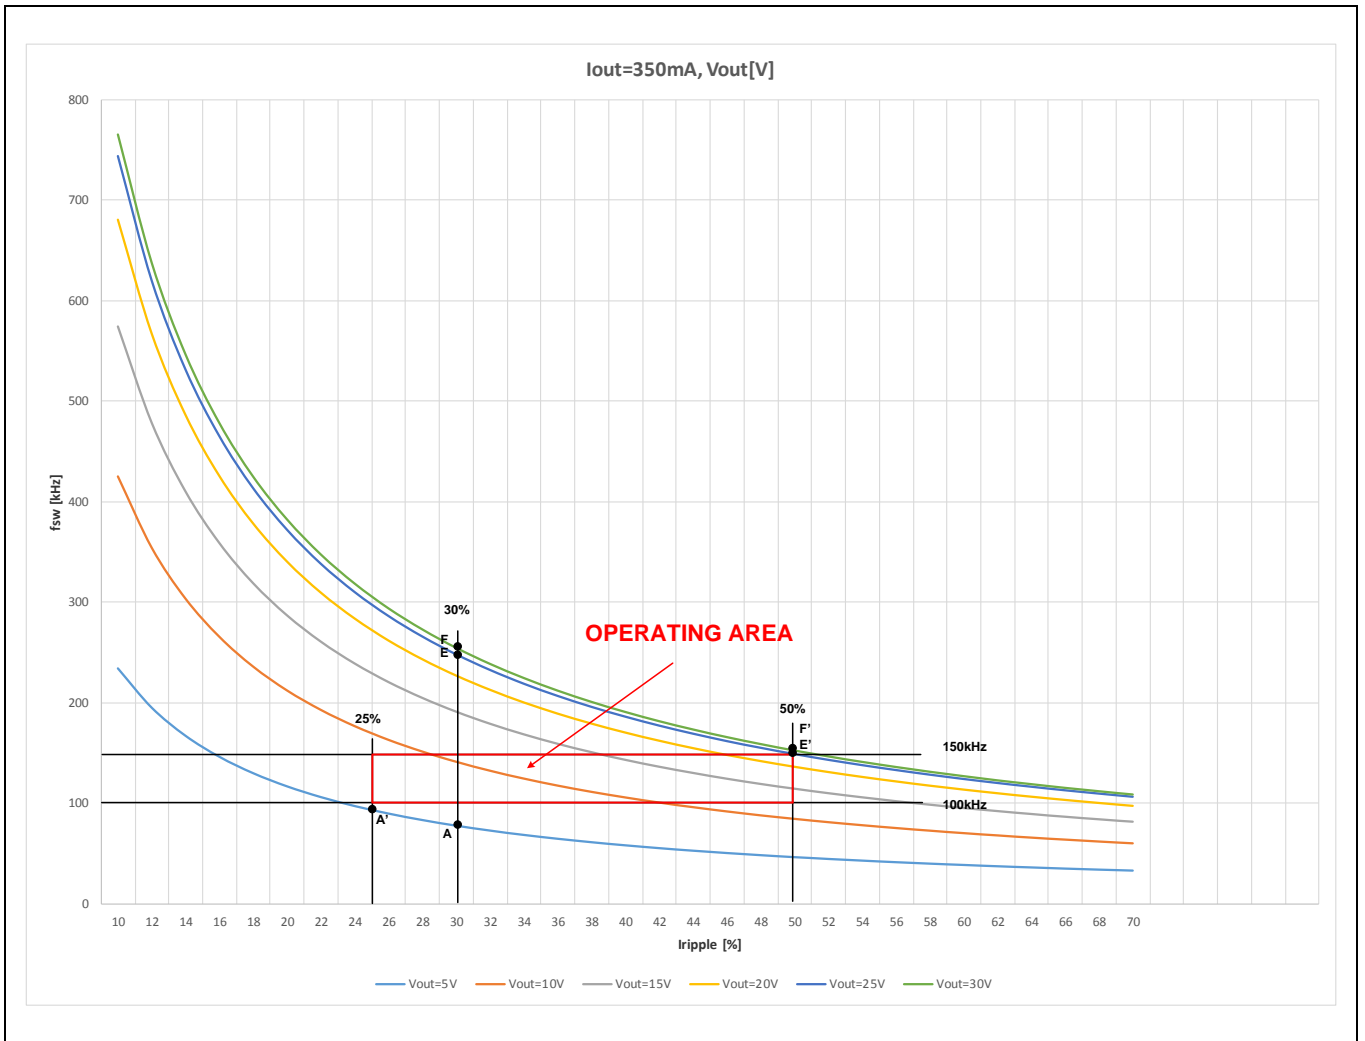

Figure 17. FRC Algorithm Example – Operating Point is outside the Predefined Borders
- 3) If the achieved operating frequency is above the maximum allowed switching frequency f_{sw_max} (e.g. $V_{out} = 25$ V – dark blue curve, point E; $V_{out} = 30$ V – green curve, point F), the firmware will start to slowly increase the ripple in order to lower the operating frequency (the slope of this increasing ripple depends on the buck inductance L_{EXT} , see equation (12) on page 17). It will continue increasing the ripple until it hits its maximum allowed value I_{ripple_max} . The switching frequency will be determined by I_{ripple_max} and could be outside the predefined borders (corrected points E' and F', see Figure 17).
- 4) If the achieved operating frequency is below the minimum allowed switching frequency f_{sw_min} (e.g. $V_{out} = 5$ V – blue curve, point A), the firmware will start to slowly decrease the ripple in order to raise the operating frequency (the slope of this decreasing ripple depends on the buck inductance L_{EXT} , see equation (12) on page 17). It will continue decreasing the ripple until the frequency reaches the low threshold value defined by the parameter f_{sw_min} , or if the ripple hits the minimum allowed value defined by the parameter I_{ripple_min} . In this case, the switching frequency could be outside the predefined borders (corrected point A', see Figure 17).